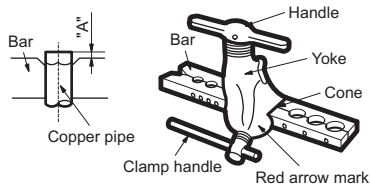

**Fig. 44 – Pipe Cutting**
- c. Cut the pipe, with a pipe cutter, at 90 degrees (see Fig. 44).